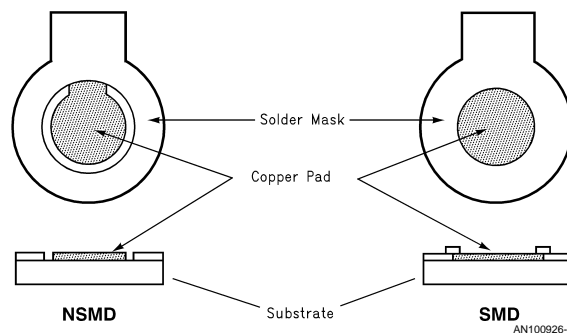

FIGURE 5. NSMD and SMD Pad Definition
Two types of land patterns are used for surface mount packages: (1) Solder mask defined (SMD) pads have solder mask opening smaller than metal pad; (2) Non-solder mask defined (NSMD) pads have metal pad smaller than the solder mask opening. Figure 5 illustrates the two different types of pad geometry.